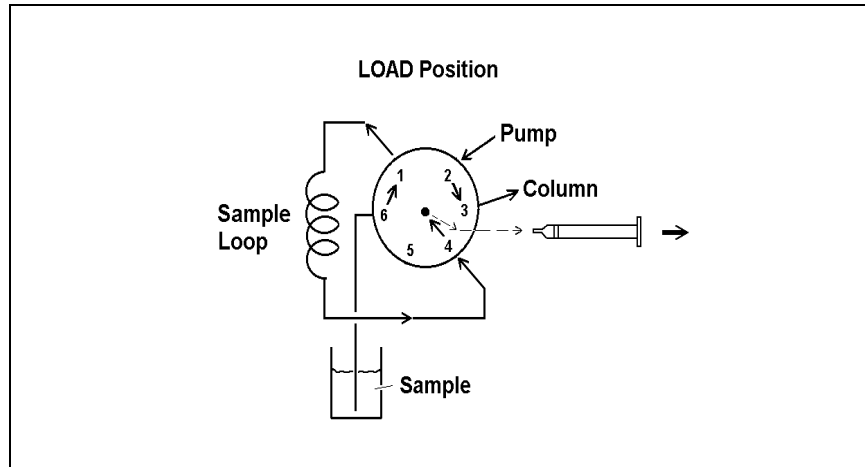

Figure 3-7. Drawing Sample
2. ***Drawing sample through the waste line:*** ***Place the injection valve into its LOAD*** position. Insert the syringe into the needle port on the Rheodyne valve, place the valve waste line (port #6) into the sample container (see Figure 3-7). Draw sample into the loop through the injection valve waste line. No sample will come into contact with the metal needle of the loading syringe. Remove the sample from the sample container. Leave the syringe in the needle port until the injection valve knob has been switched to **INJECT**.